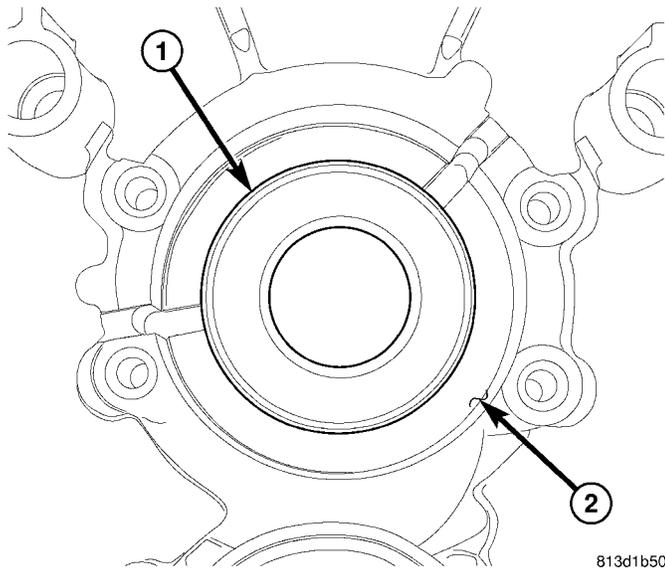

Fig. 41 INPUT SHAFT SEAL
(6) Remove input shaft seal (1) (Fig. 41) from housing (2) with a hammer and driver.